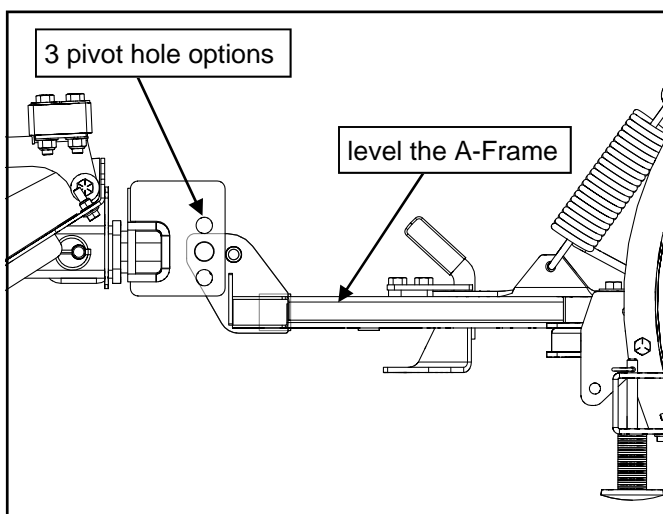

Fig. 6.2 (A-Frame - Level)
6.2 Align the Tabs of the A-Frame with tabs on the Lift Frame. Three pivot holes are provided on lift frame to accommodate varying vehicle heights. See Fig 6.2.